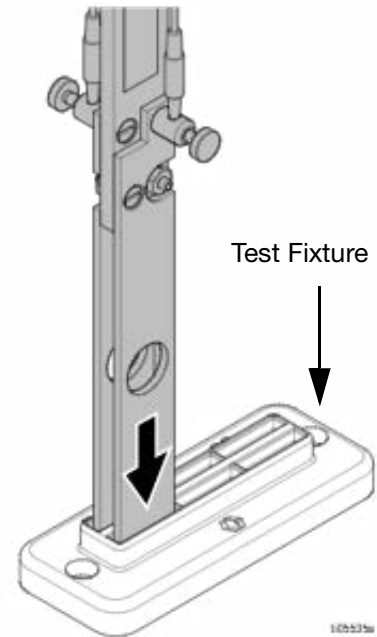

FIG. 12
1. The meter should not need to be calibrated differently compared to the factory set calibration. If the meter reading is questionable, first perform a factory reset, page 11, and retest the resistivity of the material. To confirm the resistivity meter is reading per factory settings, use Test Fixture 2014109 to check resistivity readings. See FIG. 12 below. Insert the probe into each of the slots making sure the ends of the probes touch the wires in the slots, and take a resistivity reading. The readings should closely match the numbers on the test fixture (20, 44, 89) (+/- 3 mega-ohm centimeters). If different calibration settings are required, follow the steps below.
6. Select **Set Known Resistivity** and press the Enter key (M).
7. The default resistivity is displayed as 0000. Use the Up key (N) and Down key (P) to set the known resistivity in MOhm-cm of the solution.
9. Press the Enter key (M) to read the measurement.